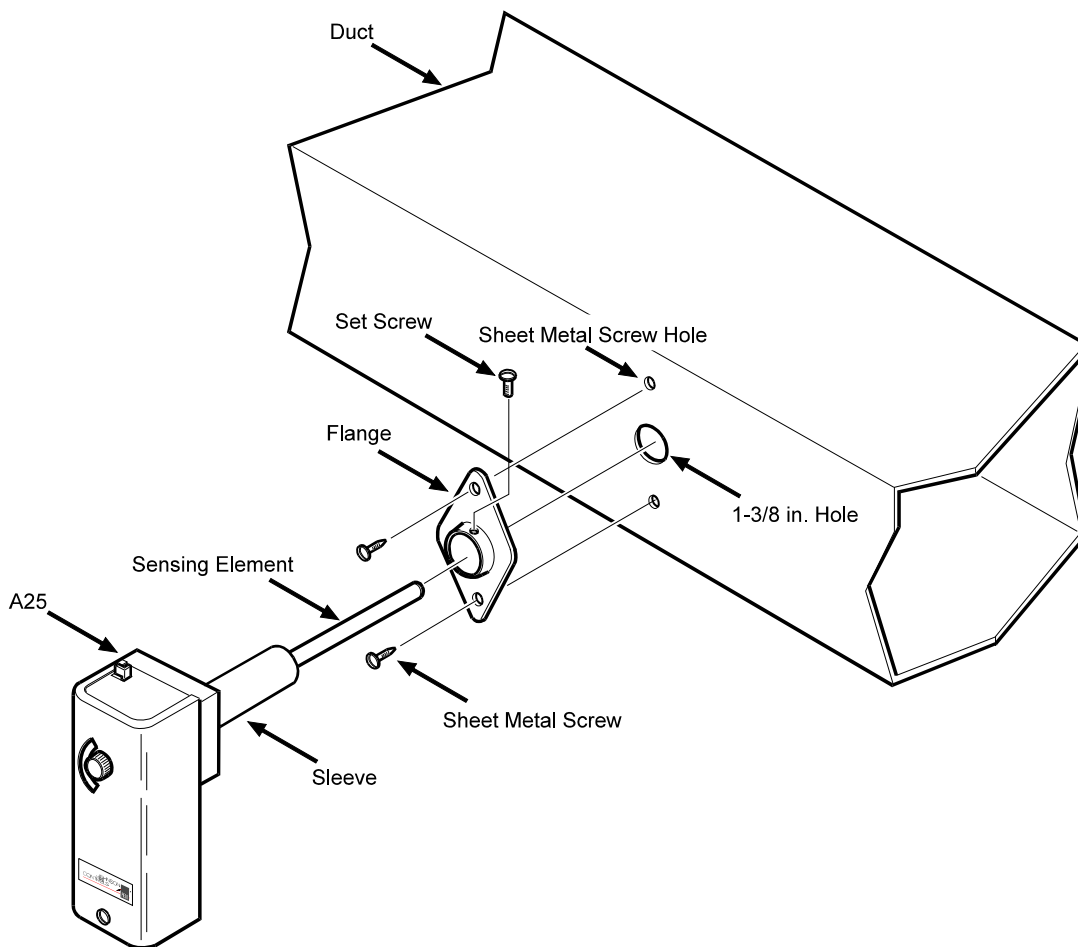

Figure 2: Installing the A25
2. Drill (or cut) a 1-3/8 in. hole in the duct at the selected mounting location (refer to Figure 2).